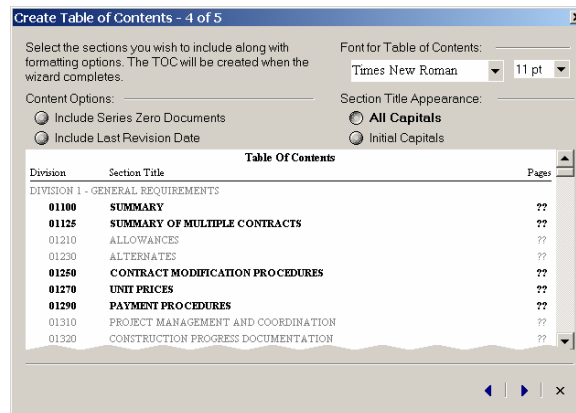

Figure 4-8 Table of Contents Dialog (MasterFormat 1995)
4. **Create Table of Contents** dialog (Figure 4-8). This is the same dialog found in the **Generate TOC** dialog of the **Multi-File** main dialog. **NOTE:** Any sections selected on the previous screen will already be highlighted in this screen.